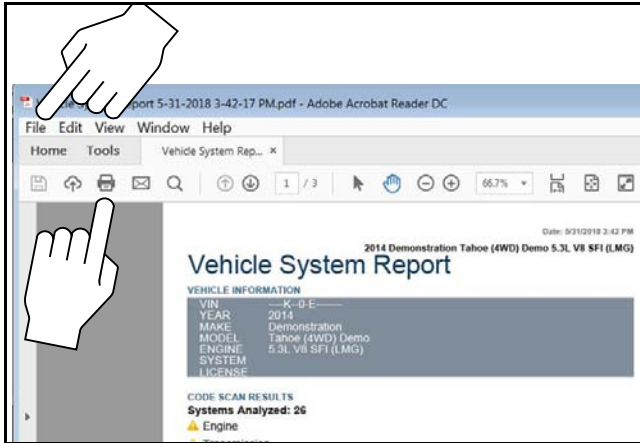

Figure 5-26
4. From the PDF viewer use the menu or toolbar print options to print the file (Figure 5-26).